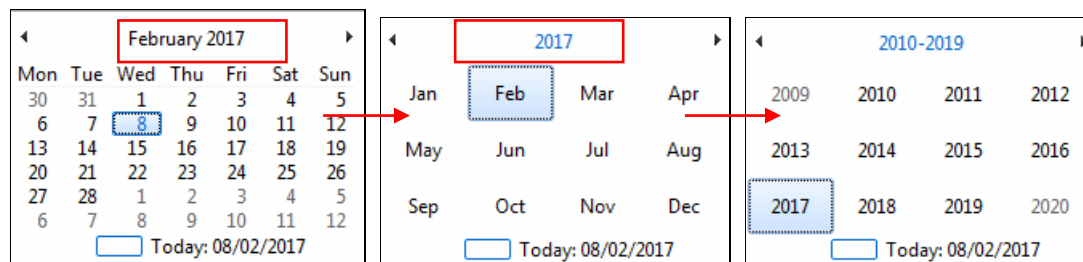

Figure 77: Date selection control
*NOTE: Click [calendar icon] in the DOB (date of birth) box to open the date selection control. Click on the left and right arrow to skip to the last or next month. Click on "X year X month" to choose the month, and click again to select the year, as shown in Figure 77. The patient's age is automatically generated if the date of birth is entered properly.*